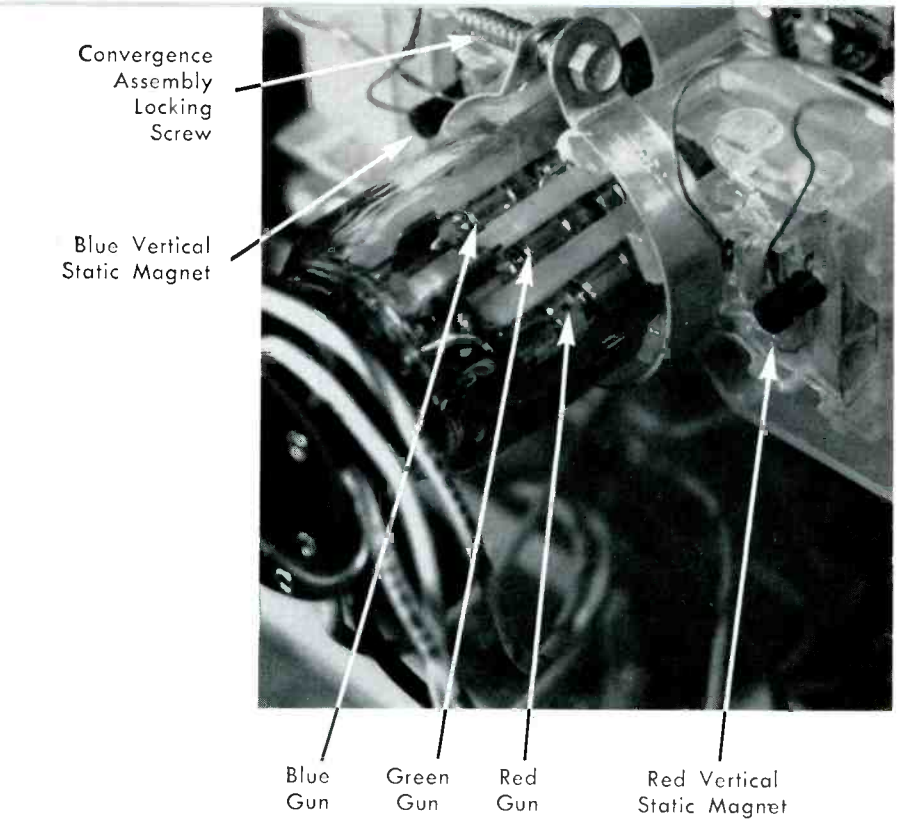
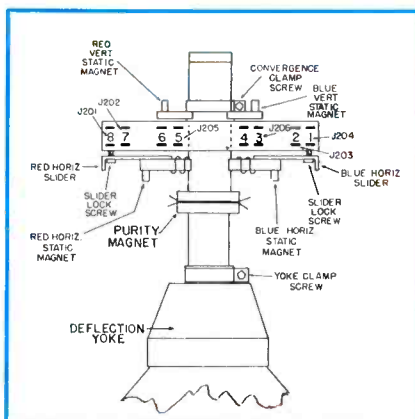
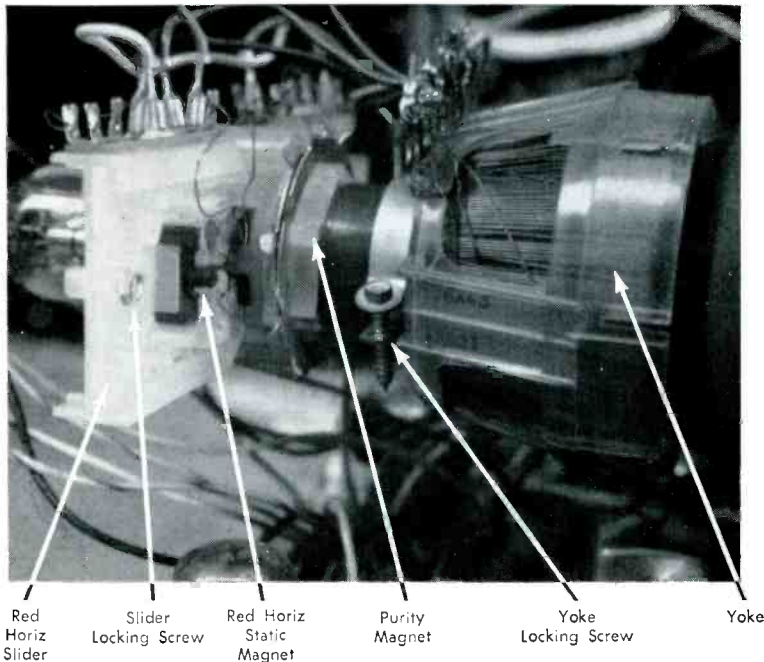

Fig. 4—The two vertical and horizontal magnet assemblies mounted on an elongated piece of clear plastic 1.5in. from socket end of CRT.
Fig. 3—Complete convergence assembly showing, horizontal and vertical static adjustments and correct positioning of convergence assembly and purity ring.
Fig. 6—Location of yoke, yoke locking screw, purity magnet, red horizontal static magnet, slider locking screw and red horizontal slider.
As illustrated in the drawing shown in Fig. 3 and the photo in Fig. 4, the convergence assembly is made up of two vertical and two horizontal magnet assemblies
1. Check for correct positioning of the convergence assembly and purity ring on the CRT neck as shown in Fig. 3 and Fig. 6.
8. Turn the color BRIGHTNESS controls (R539 and R545) "off" and loosen the yoke clamp screw (Fig. 6). Slide the yoke back as far as possible. Tighten screw so